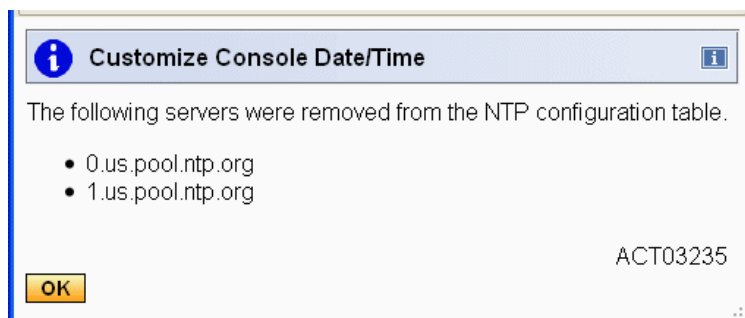

Figure 1-26 Message ACT03235 - NTP servers removed
3. When **Yes** is selected, the NTP servers are removed and an information window displays (Figure 1-26).